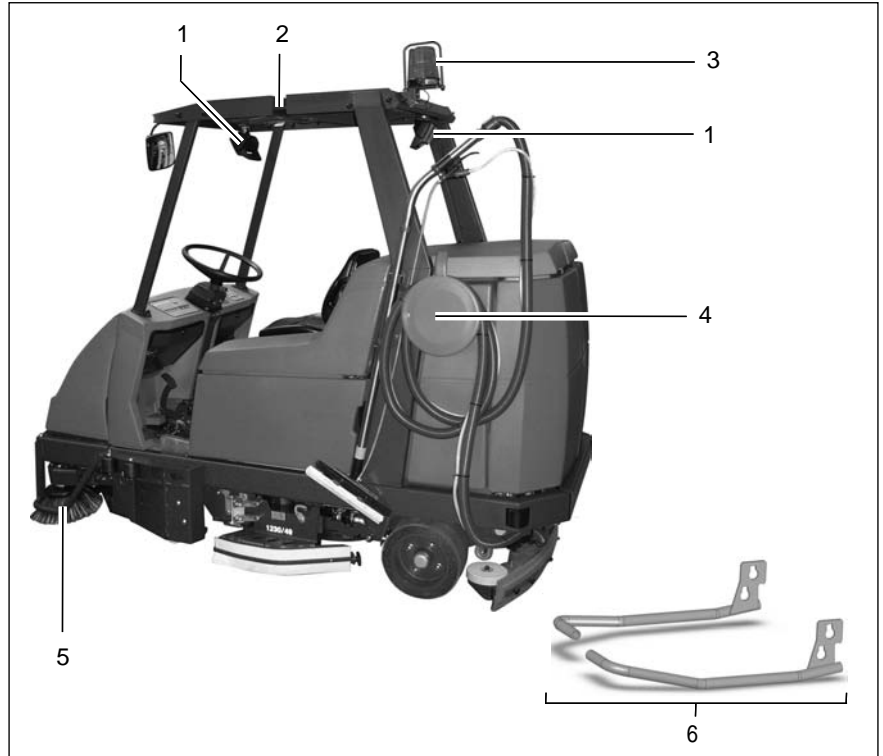

Fig. 18
(Fig. 18/1) (7584.02)
(Fig. 18/2) (7582)
(Fig. 18/3)
(Fig. 18/4)
- **Hand-held vacuum cleaner (Fig. 18/4)**
- **Side brush collision protection (Fig. 18/5)**
- **Side collision protection (Fig. 18/6)**